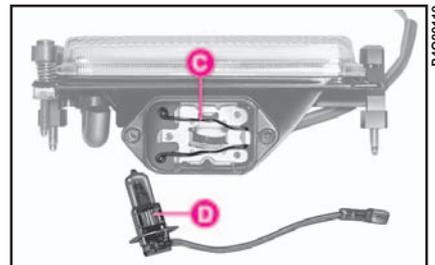

fig. 24
3) release the clip **C**-fig. 24 and remove the bulb **D**;